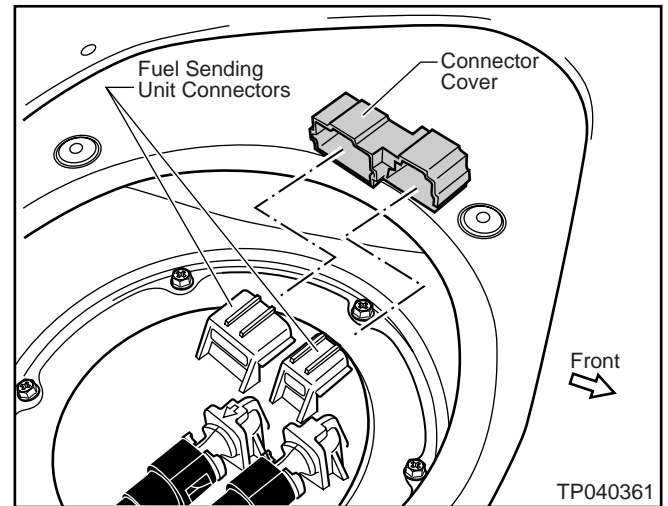

Figure 18
5. Install the Connector Cover onto the Fuel Sending Unit Connectors until it is fully seated. See Figure 18.